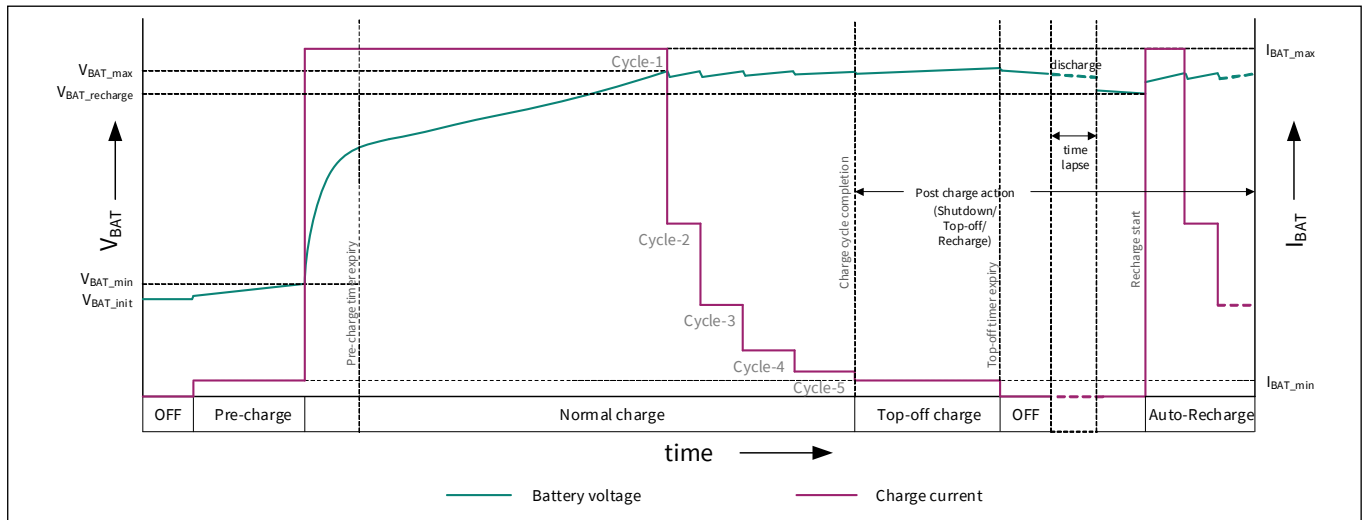
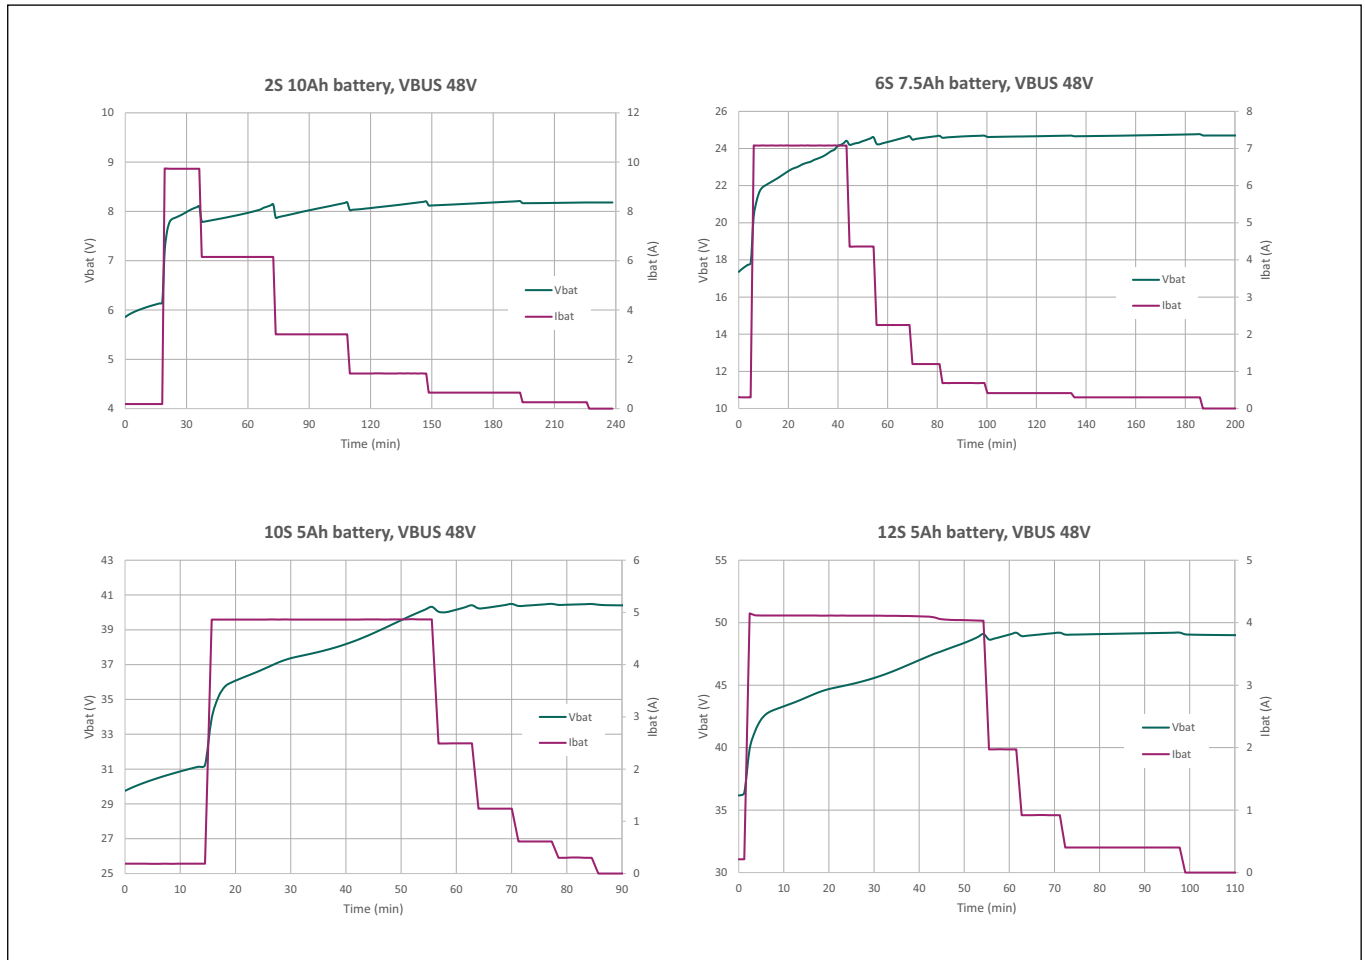

Figure 23 Battery charging modes in EZ-PD™ PMG1-B2 charger
Figure 24 Typical Li-ion battery charging V-I characteristics
The terminal voltage of the battery pack is measured using the internal 8-bit SAR ADC through VBAT_MON pin. Based on the measured voltage, the firmware adjusts the charging current. The entire charging process is divided into multiple charging cycles wherein the firmware reduces the charging current in CC mode based on the increasing battery voltage. Figure 23 and Figure 24 shows the charging current reduction in successive charging cycles.
Normal charging refers to the regular charging in constant current (CC) mode, where the system supplies the maximum possible safe charging current to the battery. The normal charging process is divided into multiple charge cycles with different values of current level set by the system. When the battery voltage reaches the maximum level for the first time, the charging current is reduced to a lower value. This drops the battery voltage slightly lower, and the charging continues with the new current level until the battery voltage further hits the maximum level again. This process continues in multiple cycles as shown in Figure 23 until the current is reduced to a minimum pre-defined level to top-off the charge until the battery is fully charged. Normal charging mode is active for a longer duration compared to other modes.
Figure 24 shows the charging profile for 2, 6, 10, and 12-cells Lithium-ion battery packs using the EZ-PD™ PMG1-B2 charger. The input power for charging is derived from a 240 W (48 V, 5 A) EPR USB PD adapter.